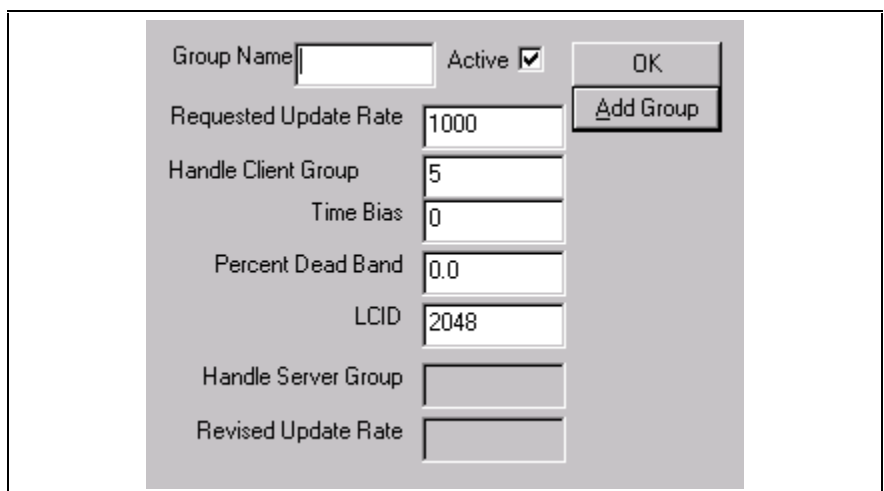

Fig. 2-9: Dialog Add Group
**AddGroup** Creates a new group using the dialog shown in Fig. 2-9: Dialog Add Group. The updating rate is entered in msec in the "Requested Update Rate" box. Press the AddGroup button to accept the data. Press the OK button to change back to the status overview.